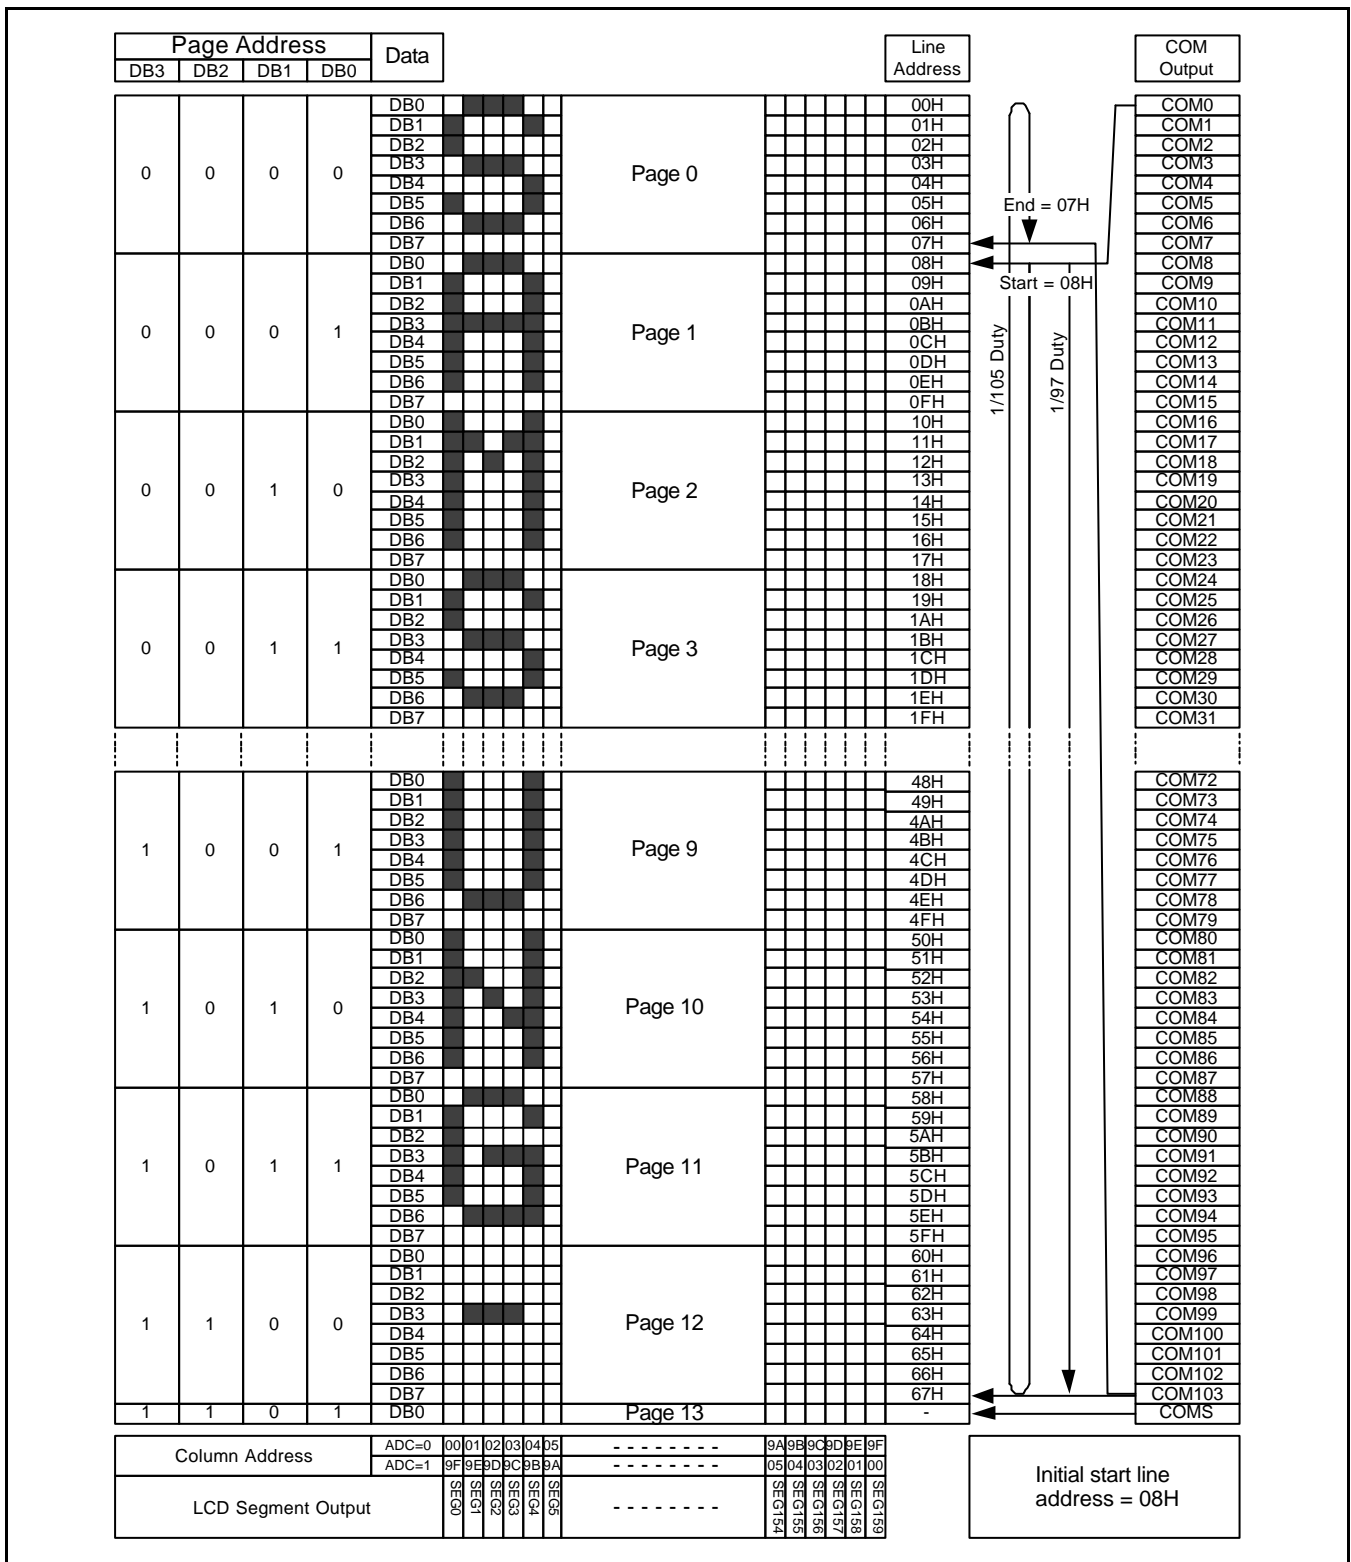

Figure 10. Display Data RAM Map
This circuit generates some signals to be used for displaying LCD. The display clock, CL, generated by oscillation clock, generates the clock for the line counter and the signal for the display data latch. The line address of on-chip RAM is generated in synchronization with the display clock (CL) and the display data latch circuit in synchronization latches the 160-bit display data with the display clock. The display data, which is read to the LCD driver, is completely independent of the access to the display data RAM from the microprocessor. The display clock generates an LCD AC signal (M) which enables the LCD driver to make a AC drive waveform, and also generates an internal common timing signal and start signal to the common driver. The frame or the line changes the phase of M by setting internal instruction. Driving waveform and internal timing signal are shown in figure 10.